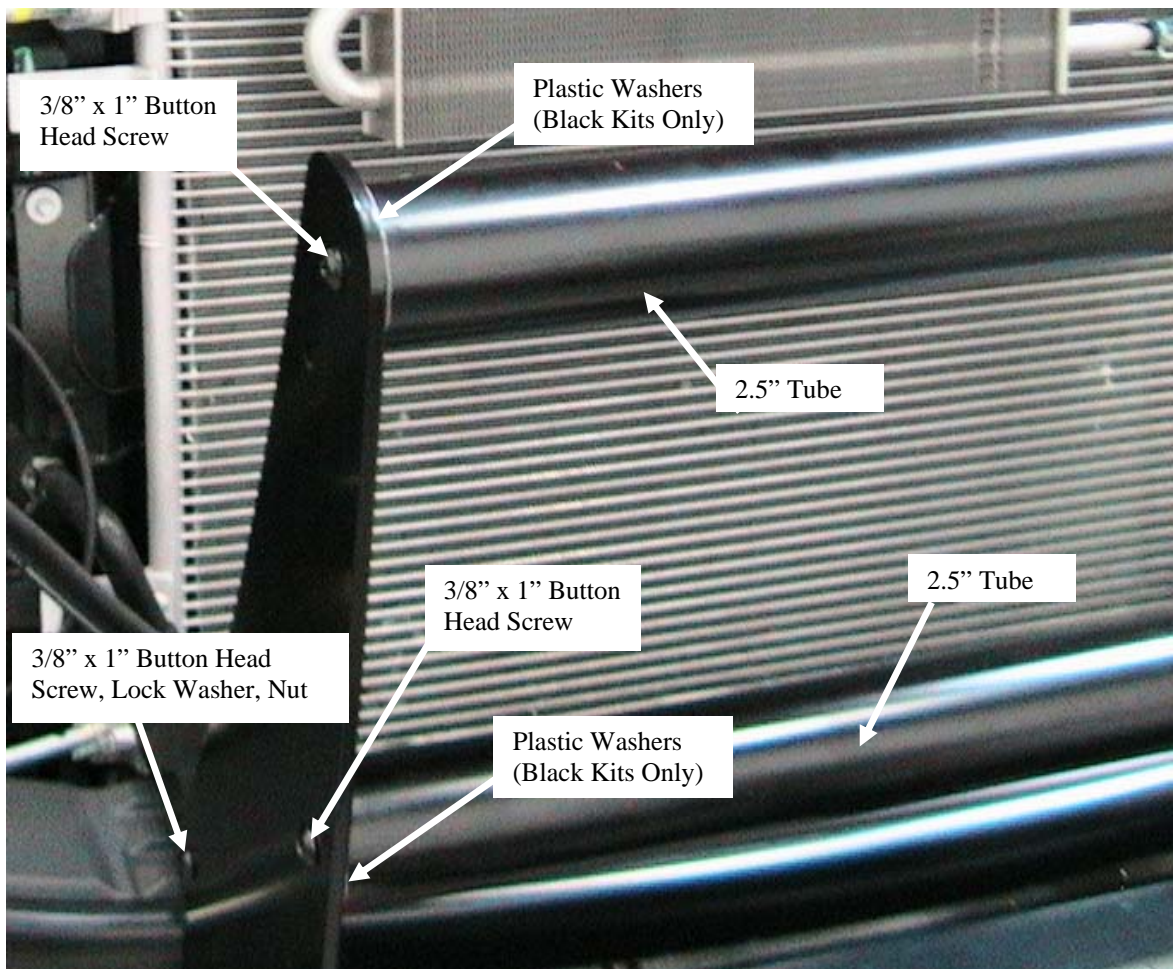

Figure 6 Side Member and Brush Guard Tube installation.
9. Install fasteners as shown in Figure A and Figure 6. Do not tighten any fasteners until instructed to do so.